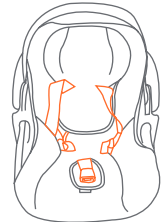

Fig. 35-1
3. Place the Safety Seat on a firm and level surface. Move the carry handle to the non rocking position. Loosen the Harness Straps by pulling on the straps while pushing on the Harness Adjuster Button located below the pad just in front of the buckle. Unfasten the Harness Chest Clip. Unbuckle the Harness Straps over the Seat back or to the sides of the Safety Seat (Fig. 35-1).